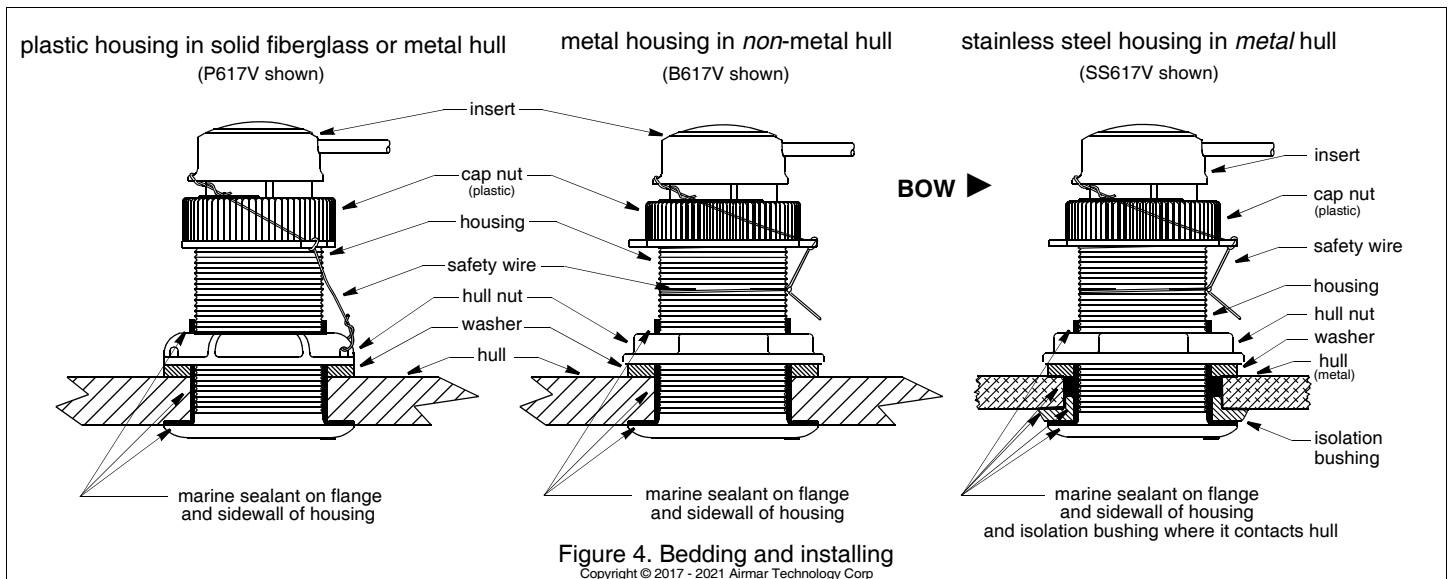

Figure 4. Bedding and installing
Apply a 2mm (1/16") thick layer of marine sealant around the flange of the housing that contacts the hull and up the sidewall of the housing. *The sealant must extend 6mm (1/4") higher than the combined thickness of the hull, the washer, and the hull nut* (Figure 4). This will ensure there is sealant in the threads to seal the hull and to hold the hull nut securely in place.
1. From outside the hull, push the housing into the mounting hole using a twisting motion to squeeze out excess sealant (Figure 4).
2. Remove the insert from the housing by removing the safety wire and unscrewing the cap nut (Figure 4). This will jack up the insert. Remove the insert with a slow pulling motion. Replace it by sliding the blanking plug into the housing.